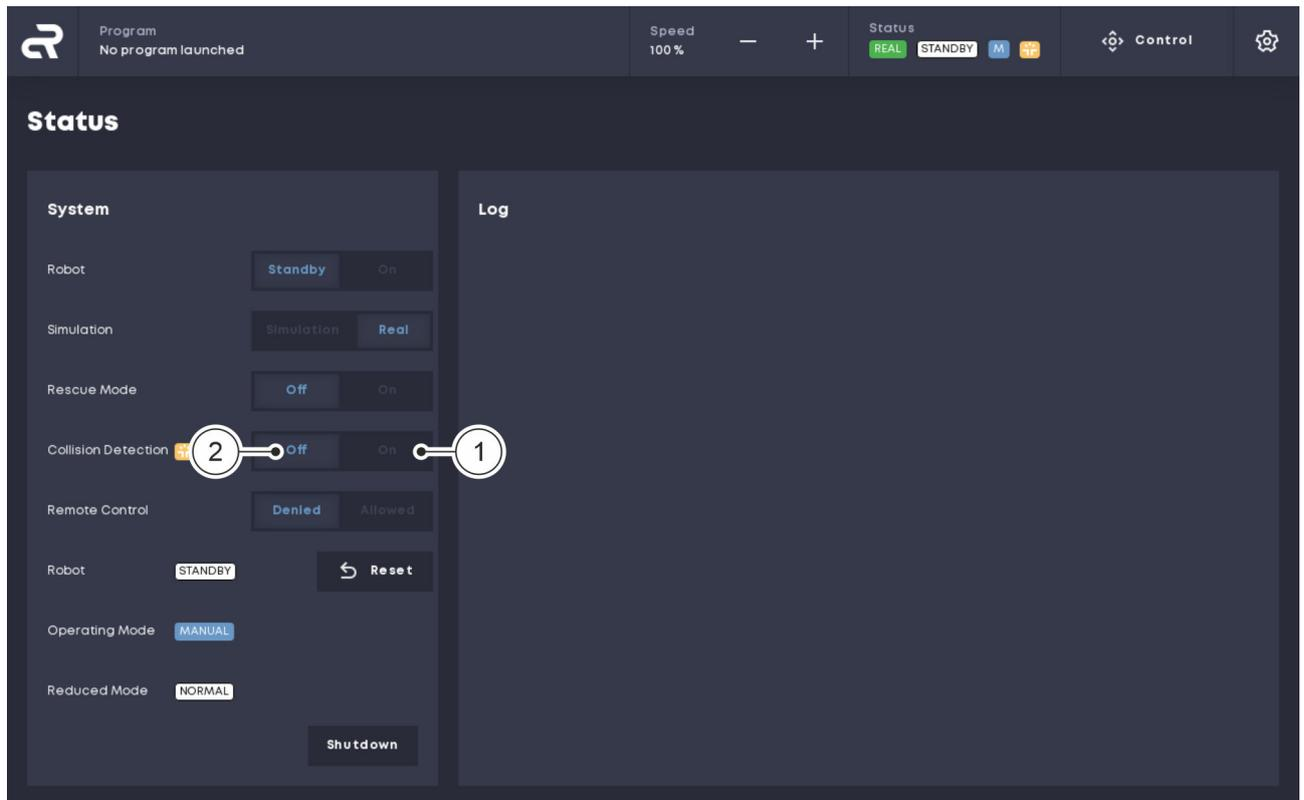

Fig. 10 Activating and deactivating collision detection
02. In the 'Status' menu, click on the 'On' button next to 'Collision Detection' to activate collision detection Fig. 10/①.
03. In the 'Status' menu, click on the 'Off' button next to 'Collision Detection' to deactivate collision detection Fig. 10/②.